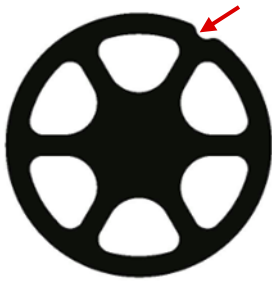

Fig. 6: Kalrez®, standard valve
- DuPont™ Kalrez® has one groove in its outer contour (see Fig. 6)